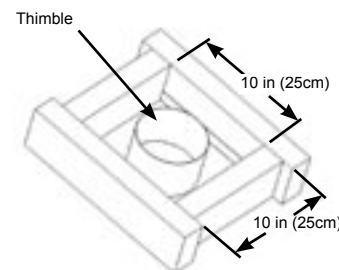
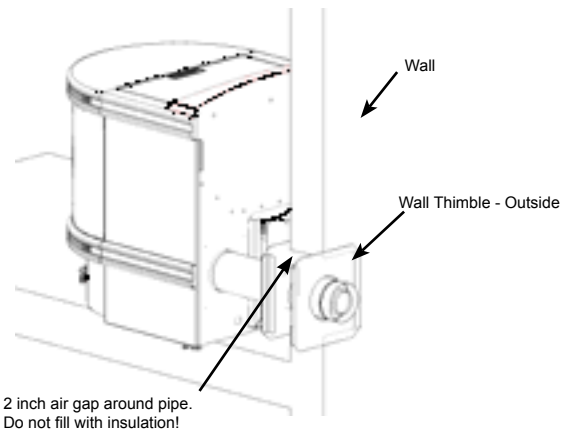

Figure 12
Figure 16
5. Drop a plumb bob to the center of the Elbow connected to the Room Heater flue outlet and mark center point on the ceiling, cut and frame a 10 in. x 10 in. (25cm x 25cm) square hole in the ceiling for the Ceiling Support Firestop. See Figure 12.
3. Cut and frame a 10 in. X 10 in. (25cm x 25cm) square opening in the wall (the hole in the wall board may need to be larger). See Figure 12 (page 15). The telescoping Wall Thimble is to be installed in the interior and exterior portion of the wall. (Wall Thimble adjusts from 4 1/4 in. to 7 in. (11cm to 18cm) to accommodate most wall thicknesses). See Figure 16.
5. Connect the Starter Collar to back of Room Heater and attach sufficient pipe to the Room Heater to extend 4 in. - 8 in. (10-20cm) beyond the Flashing. See Figure 16.